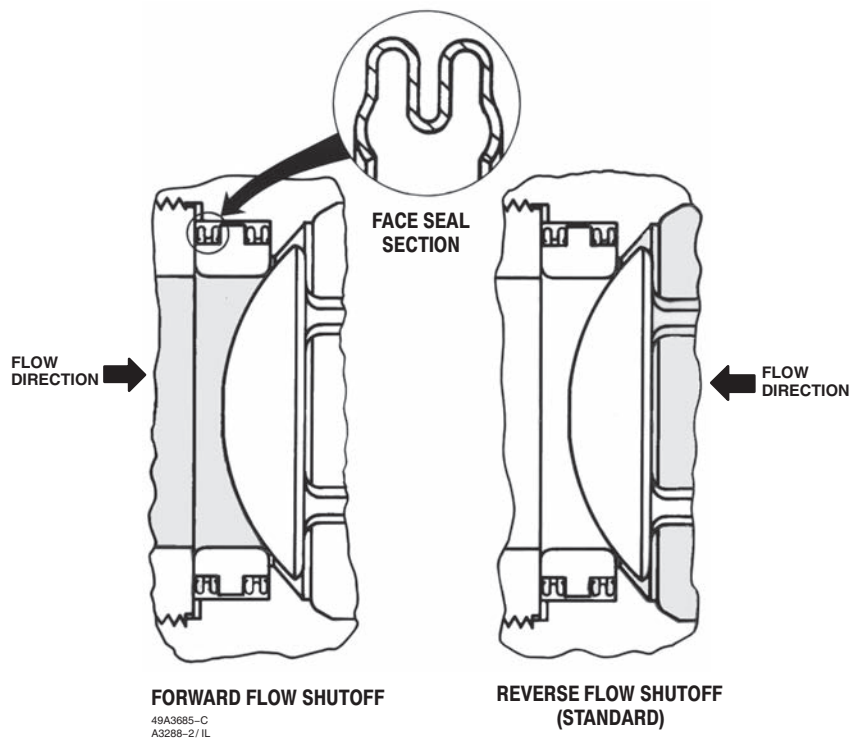

Figure 3. Detail of Seat Ring Design
- **Reliable Performance**—Seat ring design (figure 3) self-centers, self-laps, and dynamically aligns with plug, giving excellent cycle life. Sealed metal bearings help prevent particle buildup and valve shaft seizure in erosive applications.